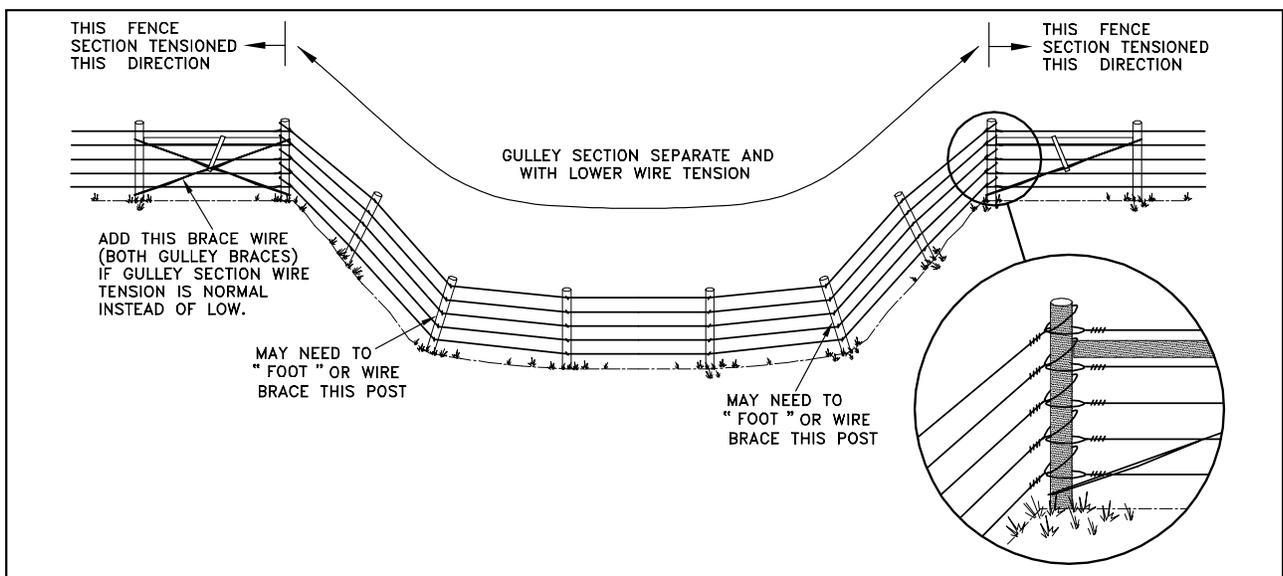

Figure 10
- most suitable for wide gullies as shown in Figure 10, next page